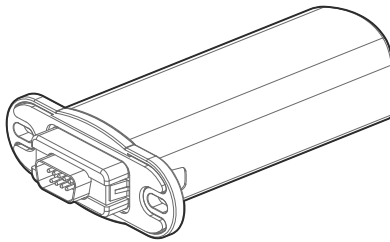

Figure 13: WiFi Gateway
- Connect CT1 of line L1 to pins 1+ (white) & 2- (black) of CN1 pin board as shown in Fig. 13.